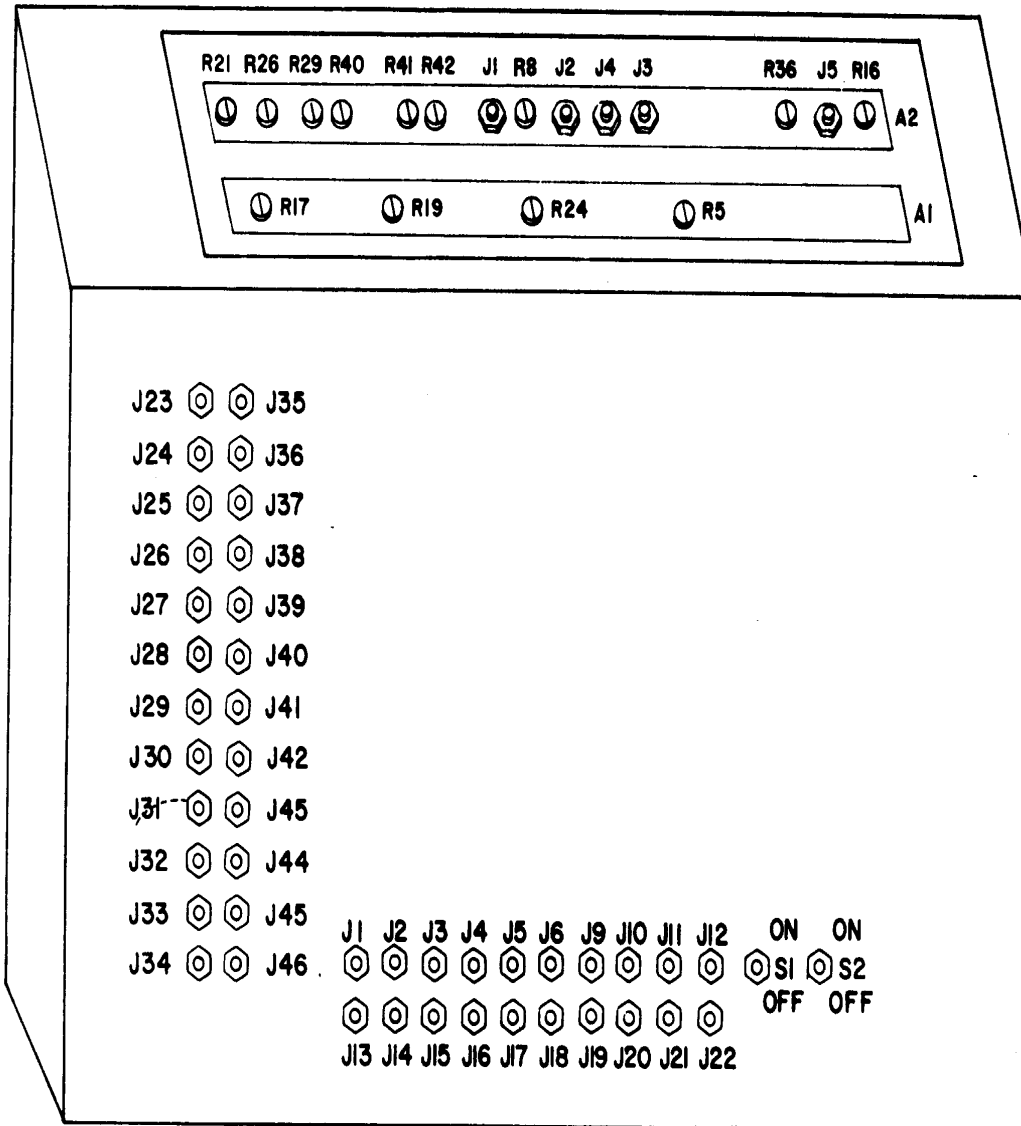

Figure 5. Patchboard PB106.
(1) Install TI onto the patchboard receiver.
(2) Program: (Press START TEST) SPS2023PS3023RSA03@A.
(3) Allow 15 minutes for equipment warmup before proceeding with calibration of PB106.
- (4) Open the cover of the TI to gain access to the PC boards.
- (5) Refer to figure 5 and connect lead (B9) using adapters (B3) and (B4) between TI A2J1 and J44 (GND).
(12) Program: SRSC00001RSA032@A.
(13) Connect ac calibrator using leads (B9) and (B10) and adapters (B3) and (B4) between J21 and J44 (GND) on the TI.
(14) Connect differential voltmeter between J36 and J44 (GND) on the TI.
(15) Set ac calibrator for 500 Hz. Adjust the ac calibrator output voltage until the differential voltmeter indicates the ac voltage recorded in step (11) for 500 Hz.
(16) Program: SRSA03@.
(17) Adjust A2R36 (fig. 5) for a differential voltmeter indication of 7.0000 V dc.
(18) Program: SRSA032@A.
(19) Set the ac calibrator to 20 Hz. Adjust the ac calibrator output voltage until the differential voltmeter indicates the ac voltage recorded in step (11) for 20 Hz.
(20) Program: SRSA03@.
(21) Differential voltmeter will indicate $7.0000 \pm .0058$ V dc.
(22) Repeat technique of steps (18) through (21) above for frequencies listed below, except the differential voltmeter will indicate $7.0000 \pm .0033$ V dc.
(1) Adjust A2R8 (fig. 5) for a differential voltmeter (A3) indication of $0.000 \pm .001$ V dc (R).
(2) Adjust A2R16 (fig. 5) for a differential voltmeter indication of $0.000 \pm .001$ V dc (R).
- (3) Connect the differential voltmeter (A3) between J46 and J45 (GND) on the TI.
- (4) Connect chassis ground of differential voltmeter (A3) to system ground.
- (5) Adjust the ac calibrator (A1) for 3.5000 V ac at a period of 834.2 ± 0.5 μ sec. Alternately adjust A2R29 and A2R40 (fig. 5) for a differential voltmeter indication of less than .012 V ac.
- (6) Adjust the ac calibrator for a period of 832.5 ± 0.5 μ sec. Alternately adjust A2R29 and A2R40 (fig. 5) for a differential voltmeter indication of less than .012 V ac.
- (7) Program: SRSA004@A.
- (8) Adjust the ac calibrator for a period of 2502.5 ± 0.5 μ sec. Alternately adjust A2R26 and A2R41 (fig. 5) for a differential voltmeter indication of less than .012 V ac.
- (9) Adjust the ac calibrator for a period of 2497.5 ± 0.5 μ sec. Alternately adjust A2R26 and A2R41 (fig. 5) for a differential voltmeter indication of less than .012 V ac.
- (10) Program: SRSARRSA002@A.
- (11) Adjust the ac calibrator for a period of 50.050 ± 0.01 msec. Alternately adjust A2R21 and A2R42 (fig. 5) for a differential voltmeter indication of less than .012 V ac.
- (12) Adjust the ac calibrator for a period of 49.950 ± 0.01 msec. Alternately adjust A2R21 and A2R42 (fig. 5) for a differential voltmeter indication of less than .012.
- (13) Press the HALT switch on the monitor panel.
(1) Adjust A1R24 (fig. 5) for an indication of 0.750 V dc on differential voltmeter (A3) (R).